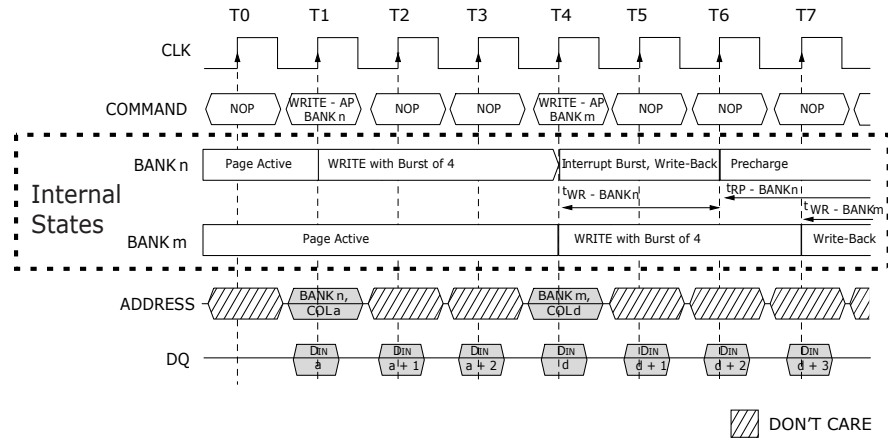

Figure 51. Write with Auto Precharge Interrupted by a Write
- Interrupted by a Write (with or without auto precharge): When a Write to bank m registers, it will interrupt a Write on bank n . The precharge to bank n will begin after t_{WR} is met, where t_{WR} begins when the Write to bank m is registered. The last valid data to bank n will be data registered one clock prior to a Write to bank m (Figure 51).